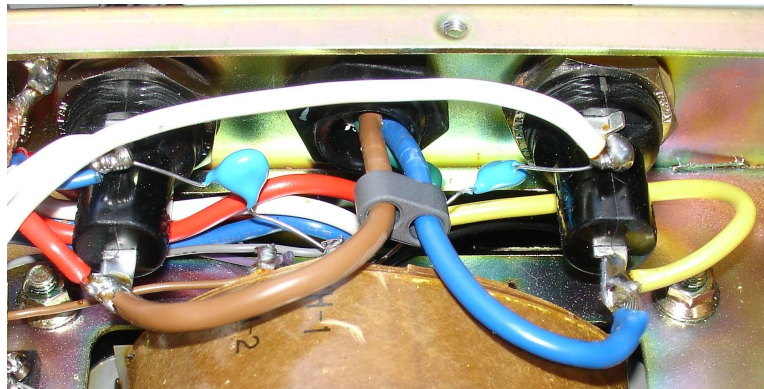

Figure 2.9: Stock Fuseholder Configuration
The stock, unmodified AC mains fuse holders are shown in Figure 2.9.
- With the amplifier and fuse area oriented as shown in Figure 2.9, de-solder and remove the white #14 wire emerging from the upper terminal of the left fuse holder.